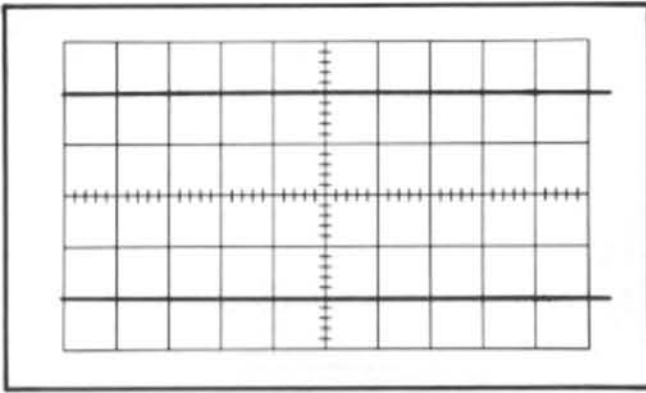

Fig. 7-8. Typical display showing correct gain adjustment.
- d. CHECK—For a display 4 cm in amplitude (see Fig. 7-8).
- e. CHECK—That display amplitude is exactly 4 cm (see Fig. 7-8). Use the Channel 1 POSITION control to align the display with the graticule lines for measuring purposes.
d. CHECK—That the display is exactly 4 cm in amplitude (see Fig. 7-8).